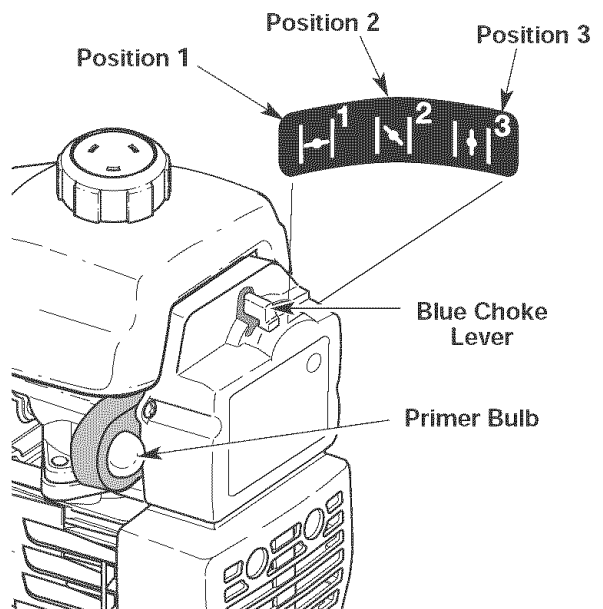

Fig. 7
3. Fully press and release the primer bulb 10 times, slowly. Some amount of fuel should be visible in the primer bulb and fuel lines (Fig. 7). If you can't see fuel in the bulb, press and release the bulb as many times as it takes before you can see fuel in it.
4. Place the blue choke lever in Position 1 (Fig. 7).